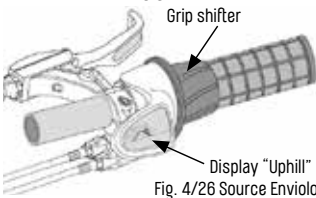

Fig. 4/26 Source Enviolo
- Clockwise rotation: Display shows a "Uphill" ("Fig. 4/ Source Enviolo" on page 26). This transmission should be selected to start or to ride uphill.